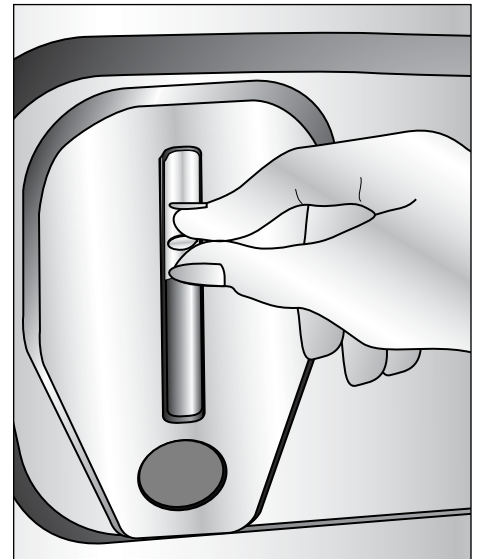

Figure 3
8. Move the slide indicator to the level of the liquid in the sight glass (figure 3). For your next load of laundry, just press and hold the "PUSH" button until the detergent moves down to the slide indicator to dispense detergent directly into the tub.